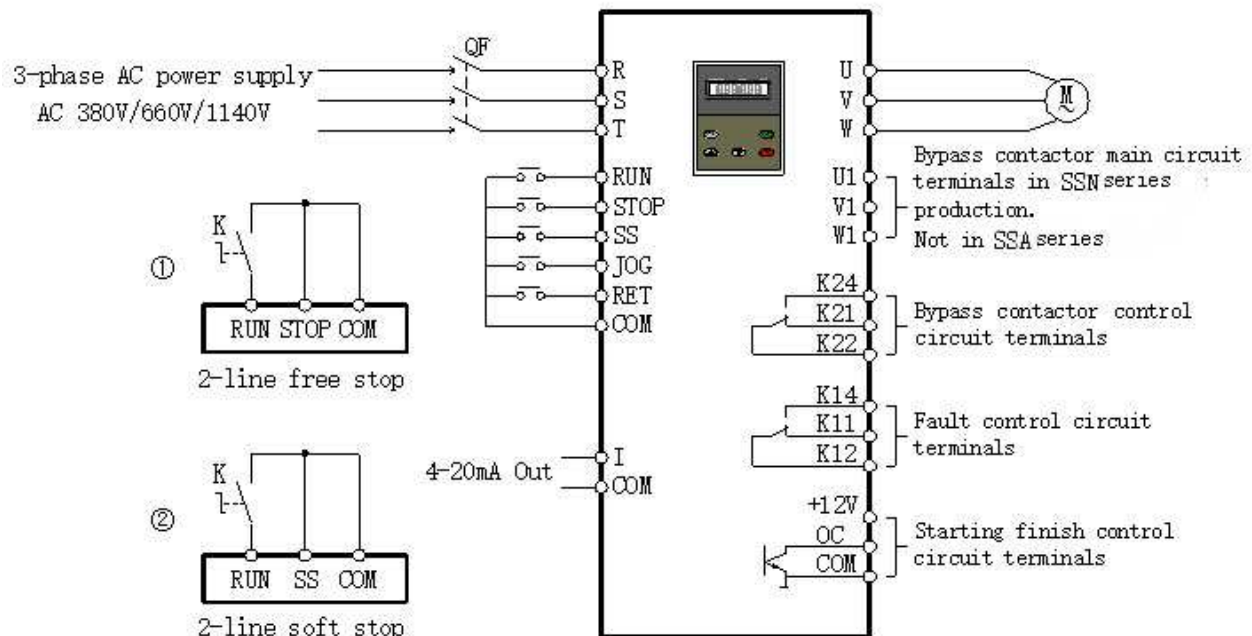

Figure 5-1
注①: There are two connecting mode, see figure 5-1